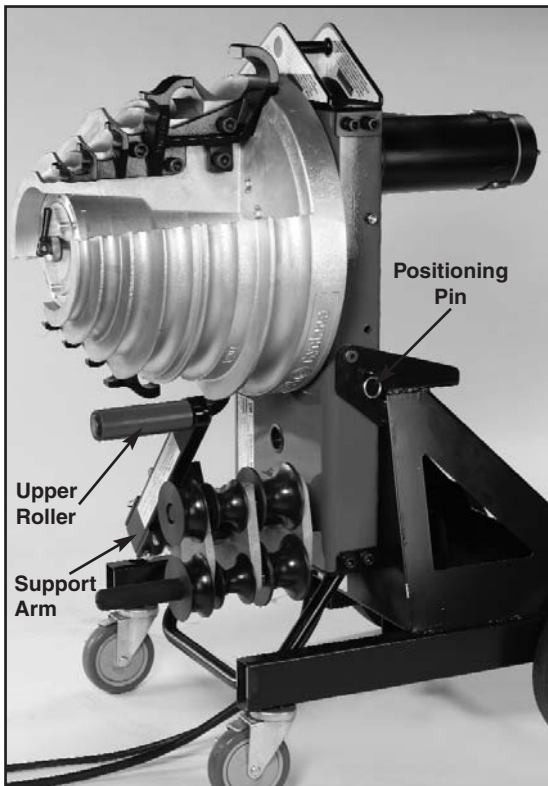

Figure 2. Vertical Position
⚠ WARNING: To avoid possible injury, do not place fingers under the bottom edge of the bending shoe. See Figure 2.
1. Position the bender in a level dry area large enough to permit loading and unloading various lengths of conduit. Position the frame, either horizontally or vertically, by pulling the spring loaded pin on the side of the bender frame. See Figure 2.
4. Push the roller housing against the frame stop. See Figure 2. Rotate the shoe to bring the required grooves (EMT, IMC or Rigid) facing toward the operator. To activate the shoe, hold the pendant toggle switch in "Return" and press the jog button until the zero light goes out. The shoe will rotate and stop in the load position. The zero light will come on.